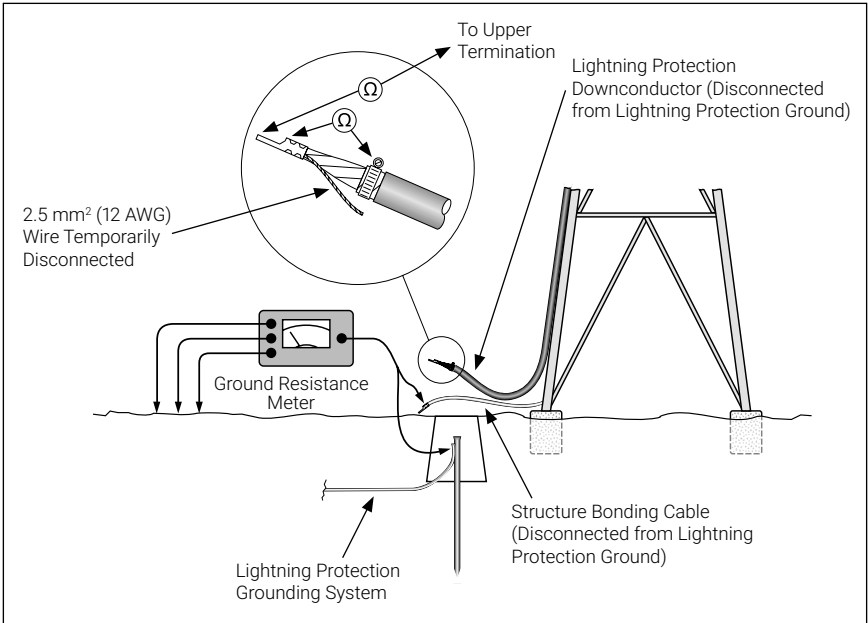

Figure 36: Grounding and downconductor continuity testing
9. Record resistance and continuity measurements using Figures 36 through 43.